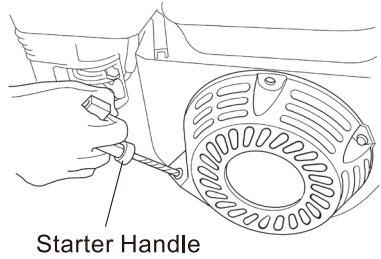

Fig.10
5. Pull the starter handle lightly until resistance is felt, and then pull it briskly. (Fig. 10)